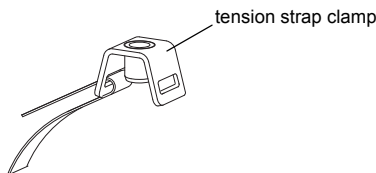

Fig. 7.24: Tension strap with tension strap clamp
- Insert approx. 10 cm of the tension strap in one of the slots of the tension strap clamp and bend it (see Fig. 7.24).